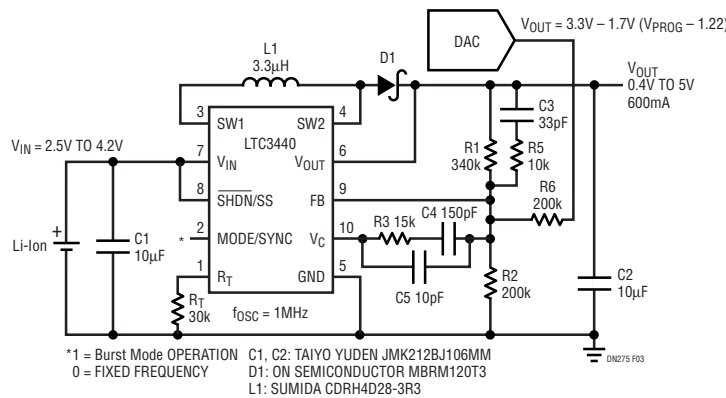

Figure 3. WCDMA Power Amp Power Supply with Dynamic Voltage Control
For the new 3rd generation (3G) cellular phones, the high speed data transmission imposes a stringent power demand on the battery. Maximum overall efficiency and operation over the entire battery voltage range are required to maximize run time. A 2W, dynamically controlled power supply for a WCDMA cell phone power amplifier (PA) is shown in Figure 3. By adjusting the voltage across the PA, the overall efficiency to the antenna is improved, and a linear PA can be utilized. At peak power, the PA requires the highest programmed voltage, typically 3.4V to 4V depending on the PA. At the lowest power level, when only voice is transmitted and the user is close to the basestation, the PA draws less than 100mA and requires a lower voltage, typically between 0.4V to 2V. Since the LTC3440 can regulate an output voltage above, below or equal to the battery voltage, the maximum transmit power can be maintained over the entire voltage range. For applications requiring a program voltage below 2V, a Schottky diode is required from the SW2 to V_{OUT} pins to provide a low impedance power path since the internal synchronous switch loses gate drive at low output